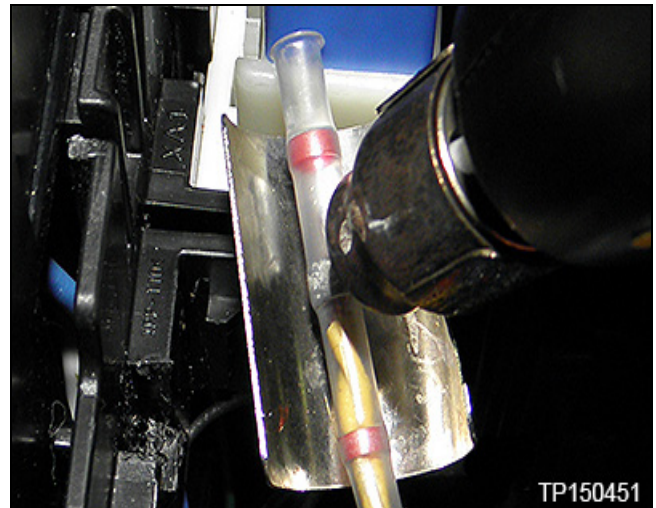

Figure 10
11. Apply heat (Figure 10) with a Flameless Heat Gun (#J-46538) until: